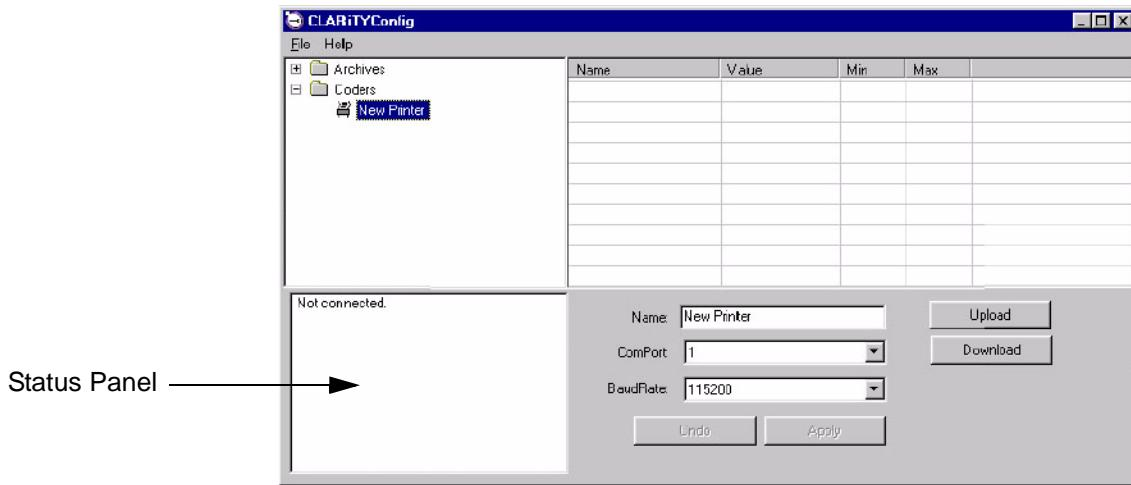

Figure 3-13: CLARiTY® Configuration Manager
- 3 Run the CLARiTY® Configuration Manager on the PC (Figure 3-13).
If the status displays "Not connected", as shown in Figure 3-13, disable or quit the other applications running on the PC that are using the serial port. Check that the baud rate settings on the Configuration Manager matches with the printer's baud rate.